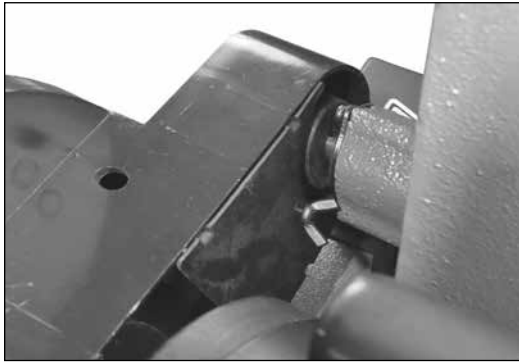

Figure 6
13. Position the metal plate inside of the belt guard. The bent tabs will keep it in place, then secure it with the long M4 Phillips head Screw (#36) and hex Nut (#40) as shown above in figure 6.